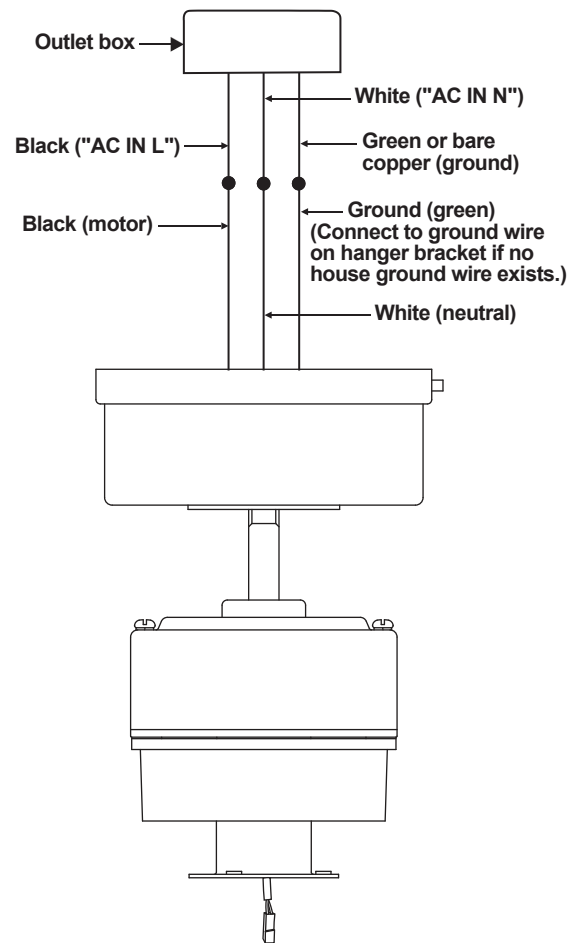

Figure 6
1. Connect the fan supply (black) wire to the black household supply wire as shown in Fig. 6.
2. Connect the neutral fan (white) wire to the white neutral household wire. (Fig. 6)